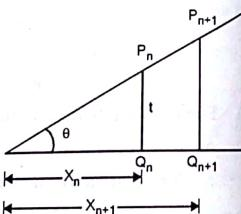

Fig. 1.8.1
- Consider Fig. 1.8.1. The n^{th} bright band is produced at a distance x_n from the edge of the wedge.